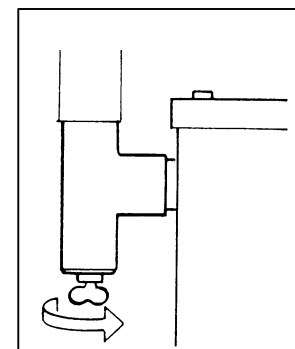

Figure 4
- Install a water trap (figure 4), to trap possible water caused by condensation